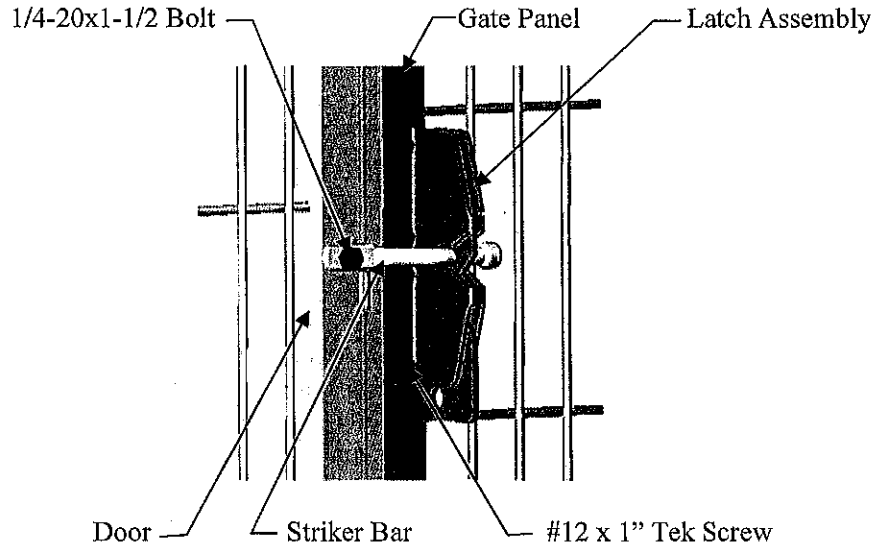

Figure 42
1. Install the Striker Bar to the pre-drilled Door using a 1/4"-20 x 1-1/2 Hex Bolt and 1/4"-20 Nylox Nut (**Figure 42**). Position the Striker bar into a horizontal position.
2. Hold the Latch Assembly in place against the Gate Panel and close the Door. Make sure to center the Striker Bar within the latch pocket and latch looks straight. Using (4) 1" Tek Screws, mount the Latch Assembly to the Gate Panel (**Figure 42 & 42A**).